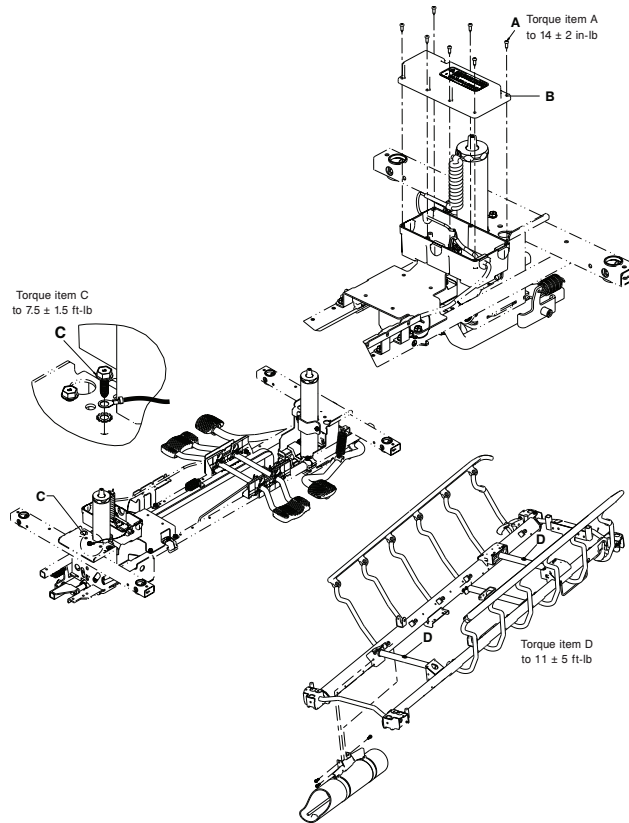

Figure 23 – Litter top removal - electric
3. Using a 1/2” socket with a 3/8” drive extension and a 3/8” drive ratchet, remove the seven pan head tapping screws (A) that secure the power box cover (B) (Figure 23).